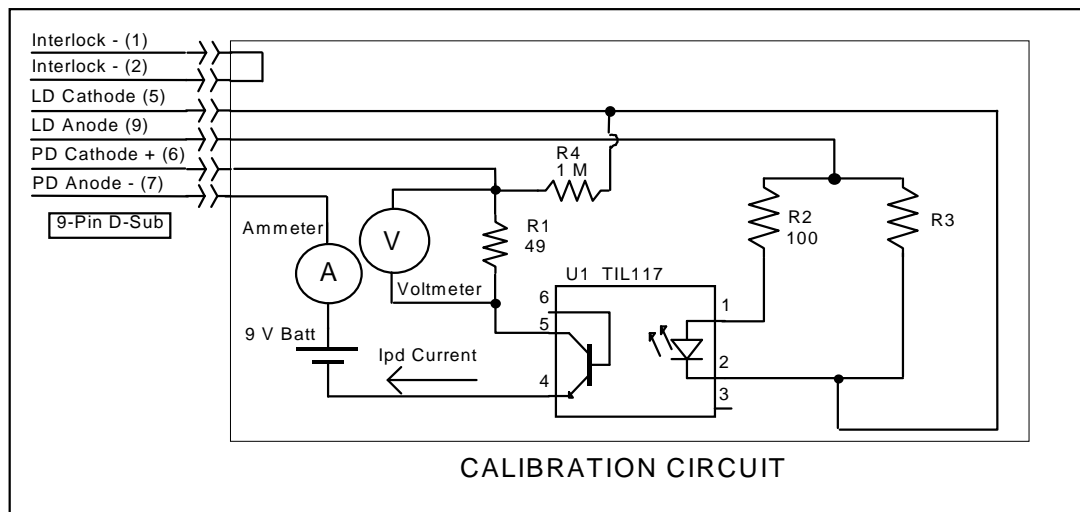

Figure 3.1 I_{PD} Calibration Circuit
- 1 Select the LCM-39420 to be calibrated by pressing the appropriate (ADJUST) switch until the LAS indicator is orange. With the LASER output off, connect a calibrated ammeter to the PD Anode output of the LCM-39420, and connect the circuit of Figure 3.1 to the LASER and PD outputs.
If a calibrated ammeter (with 0.1 μA resolution) is not available, place a calibrated DMM (with 0.1 mV resolution) to measure the voltage across the resistor, R1, as shown in Figure 3.1. Calculate the current in the following steps by using Ohm's Law:
- 1 With the LASER output off, connect a calibrated ammeter to the PD Anode output of the LCM-39420, and connect the circuit of Figure 3.1 to the LASER and PD outputs.
If a calibrated ammeter (with 0.1 μ A resolution) is not available, place a calibrated DMM (with 0.1 mV resolution) to measure the voltage across the resistor, R1, as shown in Figure 3.1. Calculate the current in the following steps by using Ohm's Law: